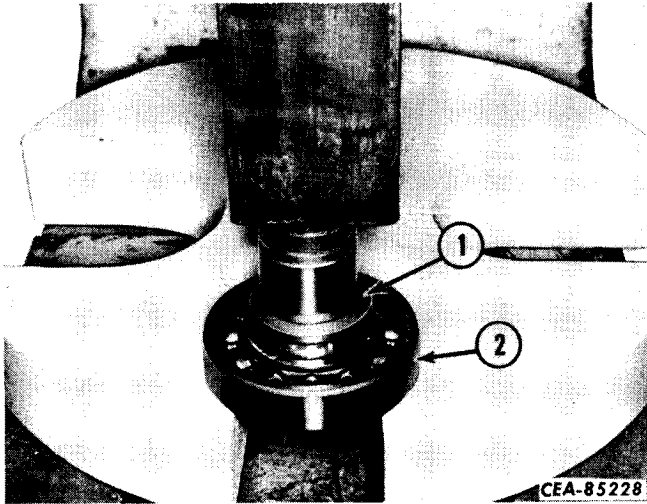

Figure 3-27
Press the bearing retainer (1, Fig. 3-27) into the driven gear bearing (2). Be sure to support bearing inner race during pressing operation.